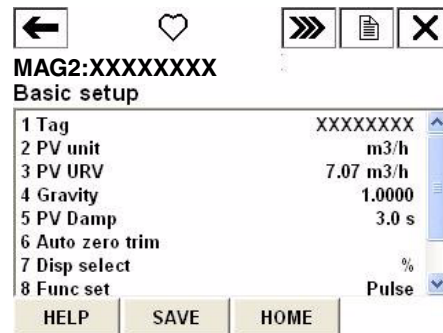

Figure 67. Transmitting the Setting
5. After pressing F4 (ENTER) and returning to the basic menu, press F2 (SEND). The HART mark appears in the upper right hand corner while HART is communicating with the device. (Figure 67.)